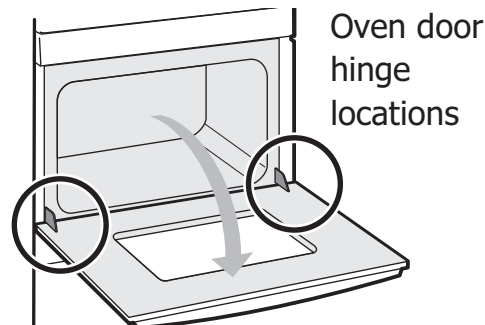
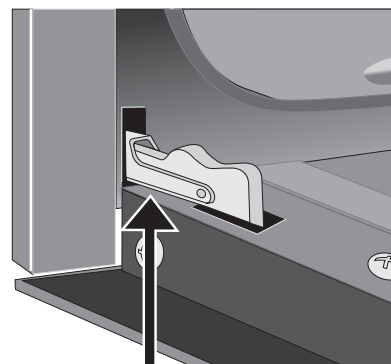

Figure 12: Door hinge location
Figure 13: Door hinge locked
2. Pull up the lock located on each hinge support toward front of the oven until the lock stops. You may have to apply a little upward pressure on the lock to pull it up (Figure 12 and Figure 13).
3. Fully open the oven door, horizontal with floor (Figure 12).
4. Push the door hinge locks up toward and into the oven frame on both left and right oven door hinges to the locked position (Figure 13).